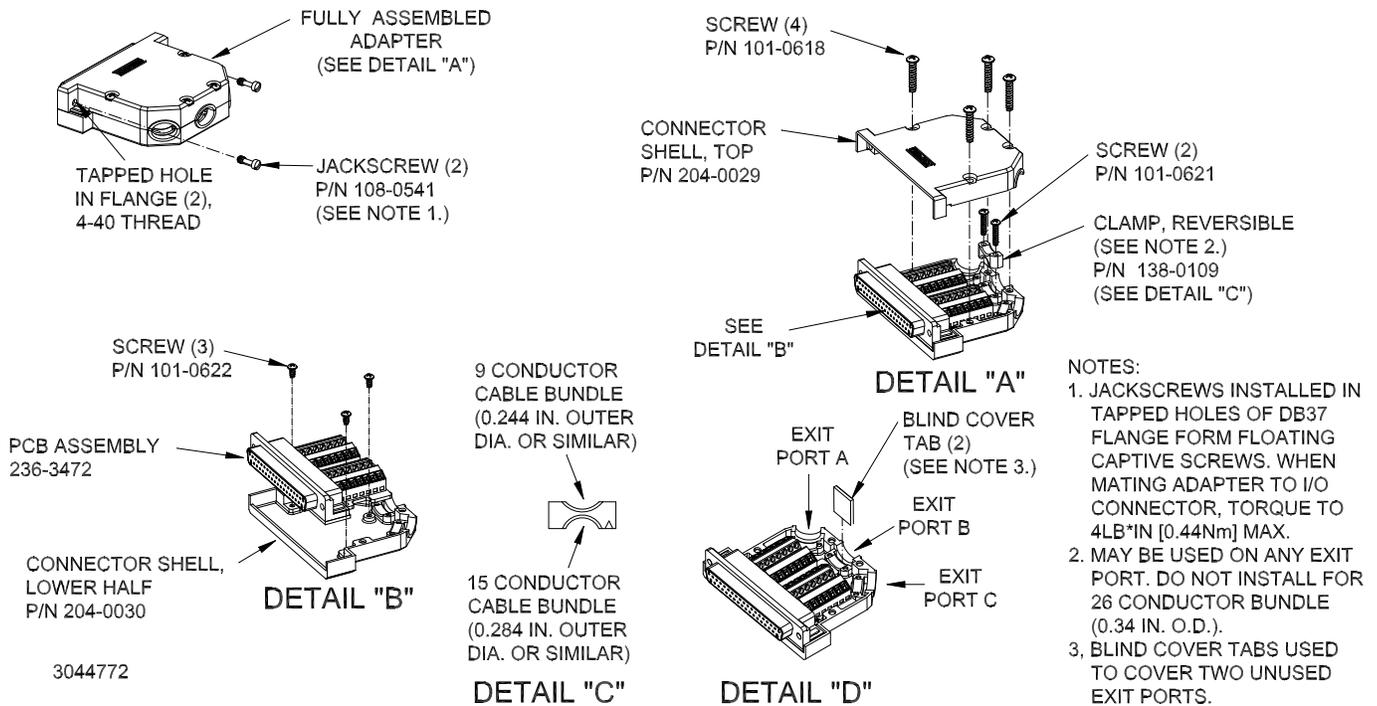

FIGURE 1. KIT 219-0645 ADAPTER ASSEMBLY COMPONENTS
This kit contains an adapter assembly (see Figures 1 and 2) that provides a convenient means of making discrete wiring connections to the 37-pin DSUB I/O connector found on RA 60 and RA 90 Series Rack Adaptors and legacy HSP power supplies via four 7-terminal Euroblock headers, labeled TB1 through TB4 (see Figures 3 and 4). This adapter is safe to touch, with the headers completely covered by two halves of a connector shell. Accommodation is made for the wires to exit either straight back or at a 45 degree angle. For finished cable assemblies use mating connectors listed as accessories in the applicable rack adapter or HSP manual.
The unit is shipped partially assembled. Refer to Figure 1 and remove four screws to detach the top shell from the adapter assembly. Refer to Figures 3 and 4 when wiring the adapter and observe the requirements listed in Table 2. Pin functions are also listed on the label found on the inside surface of the top shell. Wires to be inserted in terminals of TB1 through TB4 must be stripped to 0.25 (6mm) and torqued to 1.8 lb\*in (0.2Nm). There are three exit ports formed by the top shell and lower half of the connector shell (see Figure 1, Detail "D"), Wires may exit straight from the adapter (exit port B) or at a 45 degree angle (exit port A or C). The reversible clamp, attached with two screws, is provided for either 9- or 15-conductor bundles (see Figure 1, Detail "C"). For 26-conductor bundles, do not install the clamp; clamping is provided by the two halves of the connector shell. Use breakaway tabs to block the unused exit ports (see Figure 1, Detail "D").
NOTES: • The PCB assembly is shipped already attached and properly torqued to the connector shell lower half using three screws as shown in Figure 1, Detail "B."
- The jackscrews are threaded into the flange of the DB 37 connector (Figure 1).
- The reversible clamp is shipped installed in exit port B and the two blind covers are supplied installed in exit ports A and C (Figure 1, Details "A" and "C").
2. Choose the desired exit port and configure the clamp for the appropriate wire bundle, For 9- or 15-conductor bundles, install clamp using two screws, torque to 2.5 in\*lb (0.28Nm) max. (see Figure 1, Details "C" and "D"). For 26-conductor bundles, do not install the clamp.
3. Slide the top shell over the shoulder side of the jackscrews ,and secure using four mounting screws, torque to 3 in\*lb (0.33Nm) max. (see Figure 1, Detail "A").
4. Install the completely wired and assembled adapter assembly on the I/O connector of the RA 60 or RA 90 Series rack adapter or HSP power supply. Mate adapter to I/O connector, slightly engaging pins and connector flanges, then gradually tighten the two jackscrews, alternating between them, while ensuring they thread smoothly and easily to prevent cross-threading. Once hand tight, torque both jackscrews (captive screws) to 4 in\*lb (0.45Nm) max. (see Figure 1).